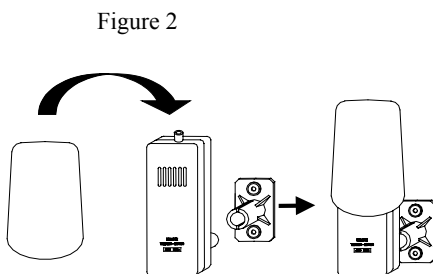

Figure 2
2. One TX4U Thermo Hygro Transmitter with mounting bracket (Figure 2).